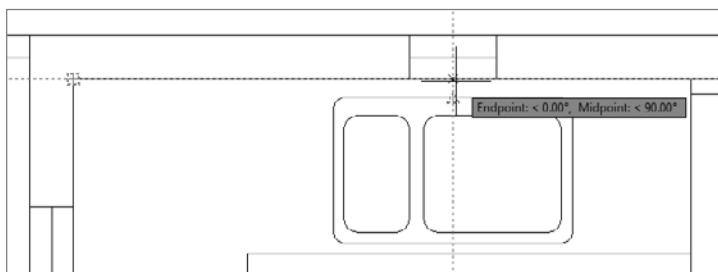

FIGURE 7.34 Setting the insertion point for the window block
- When the crosshair reaches a point directly above the first tracking point, a vertical tracking line appears and the tooltip identifies the intersection of the two tracking lines as Endpoint: <0.00°, Midpoint: <90.00° (see Figure 7.34).